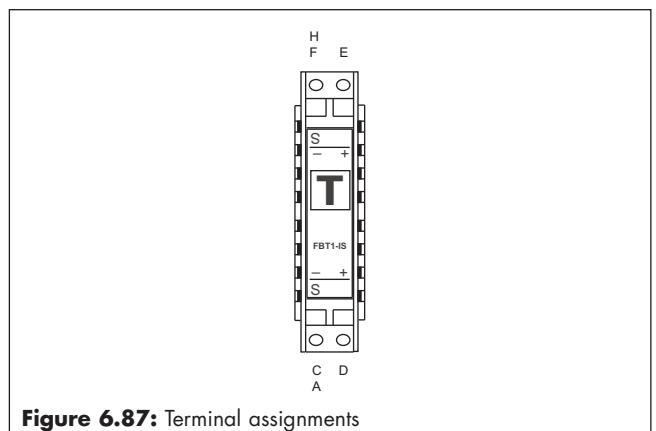

Figure 6.87: Terminal assignments
The +, - and cable screen (S) connections are indicated in Figure 6.87. The terminals will accept cables with a cross sectional area of up to 4 mm². A straight blade screwdriver with a maximum blade width of 3.5 mm is required to operate the terminals. The recommended tightening torque is <0.9 Nm.